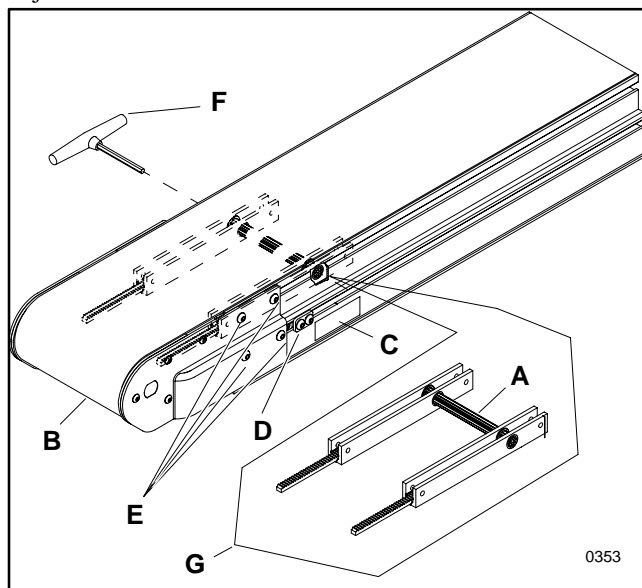
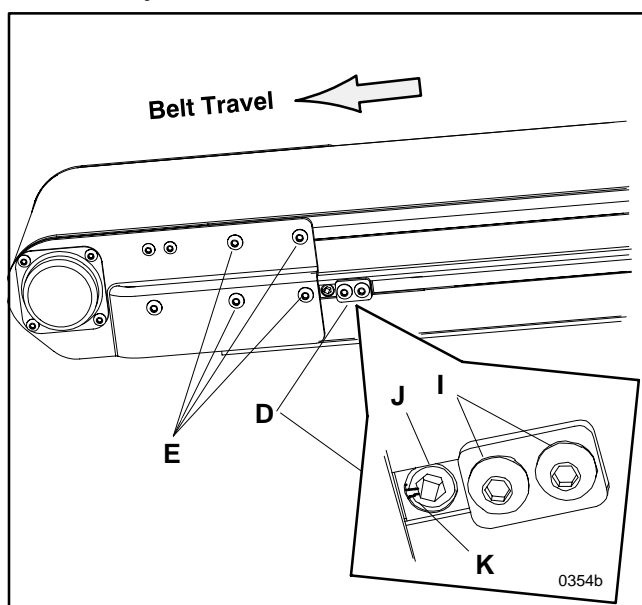

Figure 15
Figure 18
The following procedure is used to tension the conveyor belt for end driven conveyors. An end-driven conveyor uses a rack and pinion assembly (G of Figure 15) to take up conveyor belt slack and achieve proper conveyor belt operating tension. To adjust the belt tension:
1. Locate the tension end (B) of the conveyor, identified with a label (C).
2. Make sure that the belt tracking cam assemblies (D), on each side of the conveyor, are secure. Refer to callout D of Figure 18 on page 14, for more details.
3. Then, loosen tail cover plate clamping screws (E) on both sides of the tension end.
4. Insert a 5 mm hex key wrench (F) into either end of the pinion (A).
1. Loosen (but do not remove) the two cam clamping plate screws (I) on both sides of the conveyor discharge.
2. Slide both belt tracking cam assemblies (D of Figure 18) as far as they can be moved toward the end of the conveyor.
3. The belt tracking cam (J) must be set to the low point at the point of contact as illustrated. The slot (K), in the belt tracking cam, should be horizontal and pointing towards the end of the conveyor.
4. Tighten the two (2) belt tracking cam retaining plate screws (I), on both sides of the conveyor.
5. **Only loosen the four tail cover plate screws (E of Figure 18) on the side of the conveyor that the belt is tracking toward.**
6. Use the 5 mm key wrench (F of Figure 15) to slowly rotate the belt tracking cam (J of Figure 18) in small increments in either direction to cause the belt to track away from the conveyor side, until the belt tracks in the center of the conveyor. Always allow the conveyor belt to make several revolutions between adjustments.
7. While holding the belt tracking cam (J of Figure 18) in position, tighten the tail cover plate clamp screws (E) and re-check the belt tracking.